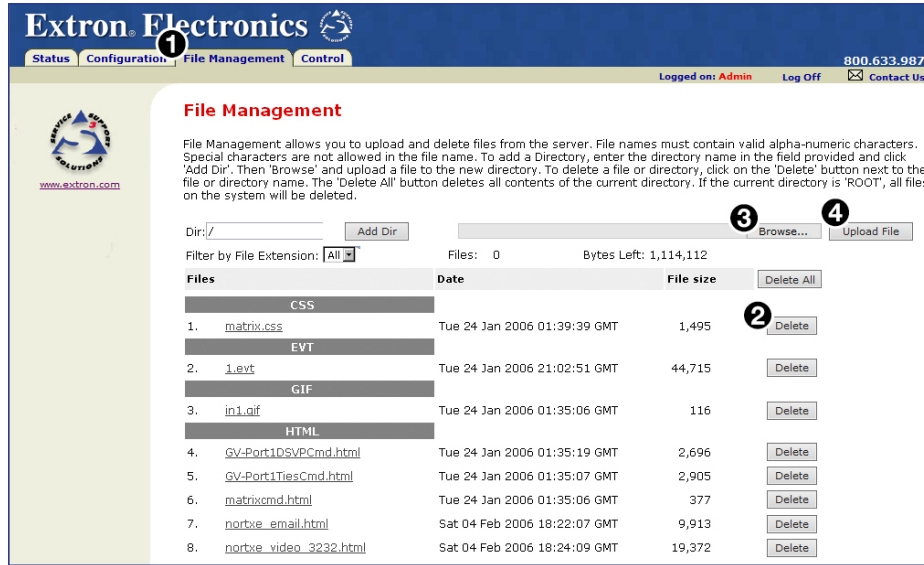

Figure 37. File Management Page
To delete files such as user-supplied HTML pages from the matrix switcher or to upload your own files to the matrix switcher, click the **File Management** tab (see figure 37, ①). The matrix switcher downloads the File Management page.
NOTE: The files listed in figure 37 are shown for example only and may not be present on your matrix switcher.